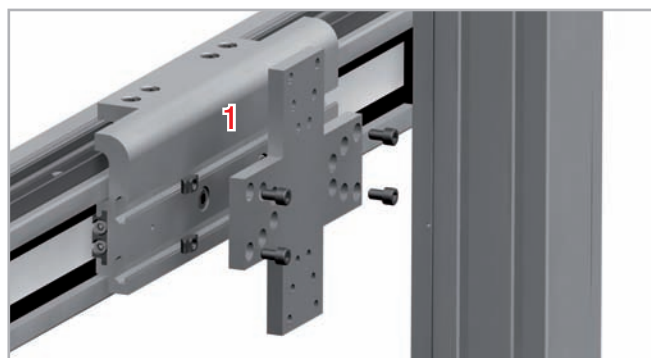

Fig. 106
1. Insert the screws from one side of the connection plate into the prepared holes (see fig. 106).